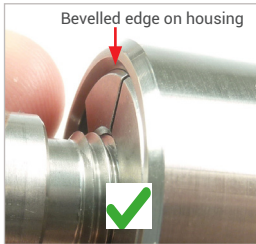
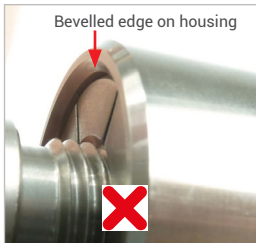

Figure 14
Figure 15
- ▶ Vent the pilot pressure again. The connector tightens itself to the test piece and creates a pressure-tight connection. The plane surface of the clamping jaws is at the same height as the chamfer of the housing (Figure 14). **Attention:** Make sure that the clamping jaws on the test piece grip correctly and that the plane surface of the clamping jaws is not behind the chamfer of the housing (Figure 15). Make sure that the connector is seated properly (it must not wobble) and that the pressure-tight connection has been made. Only then is the connector connected correctly. Otherwise the connector may spring out of place and medium may escape.